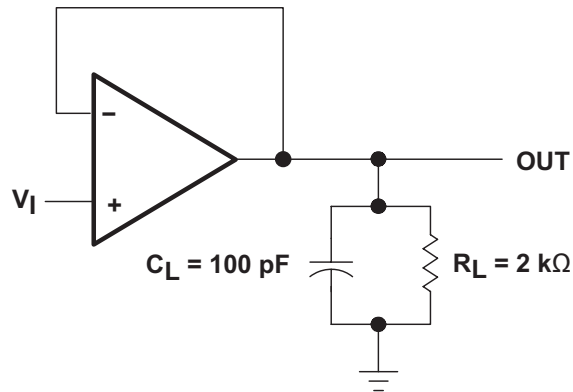

Figure 16. Unity-Gain Amplifier
| SR        | Slew rate at unity gain (1)$V_I = 10\text{ V}, R_L = 10\text{ k}\Omega,$$C_L = 100\text{ pF},$see <a href="#">Figure 16</a> | 1.5 | 3.5 |     | V/ $\mu\text{s}$       |